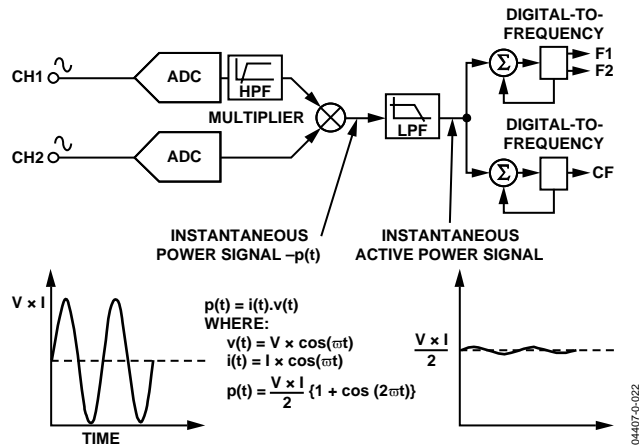

Figure 20. Signal Processing Block Diagram
The active power calculation is derived from the instantaneous power signal. The instantaneous power signal is generated by a direct multiplication of the current and voltage signals. To extract the active power component (dc component), the instantaneous power signal is low-pass filtered. Figure 20 illustrates the instantaneous active power signal and shows how the active power information can be extracted by low-pass filtering the instantaneous power signal. This scheme correctly calculates active power for nonsinusoidal current and voltage waveforms at all power factors. All signal processing is carried out in the digital domain for superior stability over temperature and time.
The pulse output calibration frequency (CF) is intended for use during calibration. The output pulse rate on CF can be up to 2048 times the pulse rate on F1 and F2. The lower the F1-4 frequency selected, the higher the CF scaling. Table 6 shows how the two frequencies are related, depending on the states of the logic inputs S0, S1, and SCF. Because of its relatively high pulse rate, the frequency at this logic output is proportional to the instantaneous active power. As with F1 and F2, the frequency is derived from the output of the low-pass filter after multiplication. However, because the output frequency is high, this active power information is accumulated over a much shorter time. Therefore, less averaging is carried out in the digital-to-frequency conversion. With much less averaging of the active power signal, the CF output is much more responsive to power fluctuations (see Figure 20).